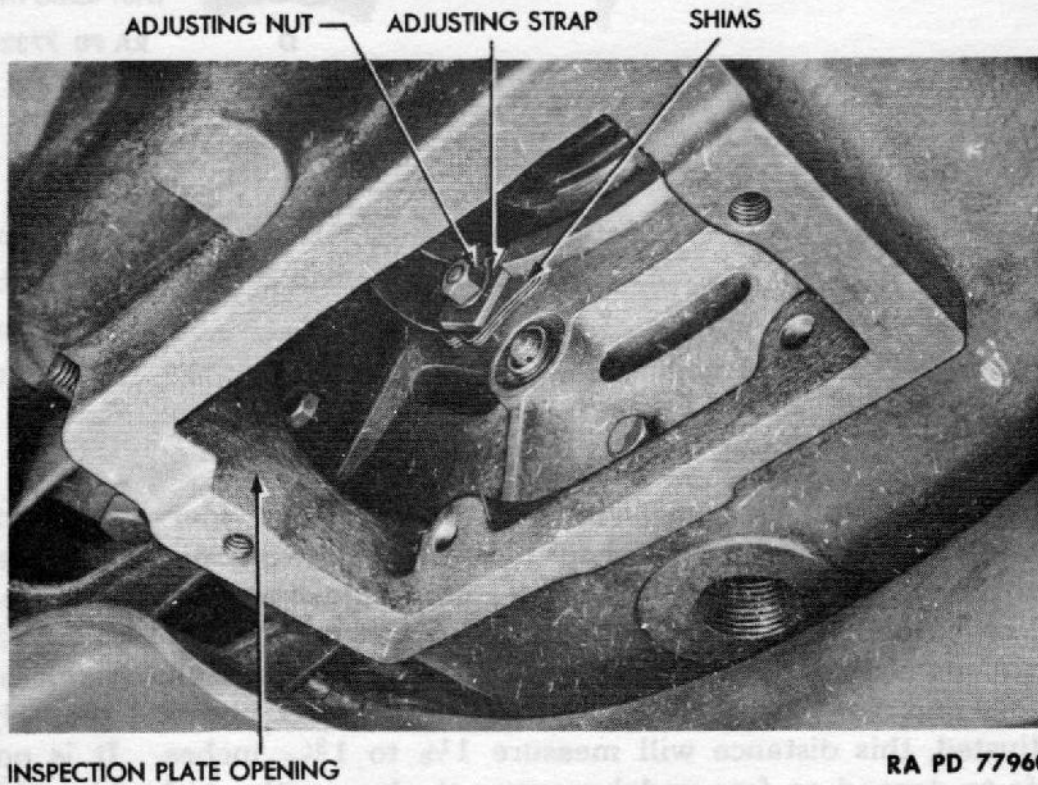

Figure 82 – Clutch Adjustment Provisions
b. Adjusting the Clutch (fig. 82).